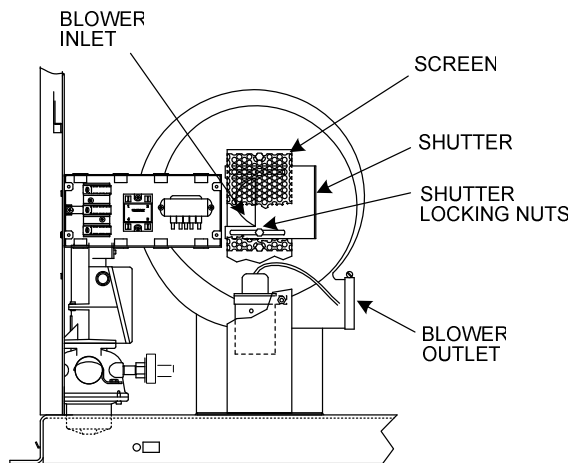

Figure 4.4
23. If the measured oxygen reading is below the oxygen range in Table 3 (or 3A), loosen the two bolts that secure the inlet air shutter to the unit using a 7/16" wrench (see Figure 4.4). Open the shutter 1/4" to 1/2" to increase the oxygen level, then tighten the nuts.